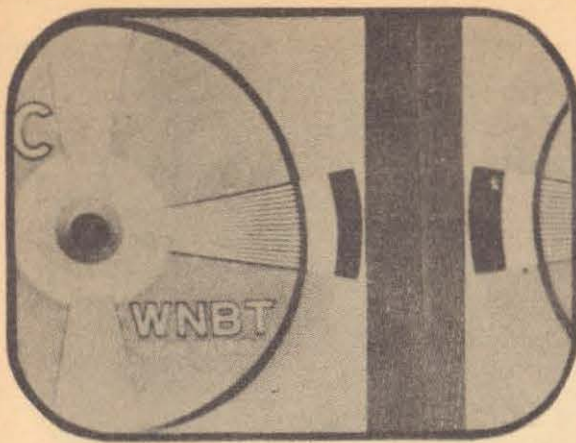

Fig. 13 Horizontal Discriminator Phase Misadjusted
**HORIZONTAL DISCRIMINATOR PHASE ADJUSTMENT.** The discriminator stage compares the sync pulse rate with the horizontal oscillator rate or frequency and delivers a DC voltage for the control of the oscillator. If the voltage at the plates of the two diodes, impressed by the oscillator, is equally divided, the DC output will not be zero at the correct time for retrace at the end of the horizontal line. This off-balance condition will result in the received test pattern shown in Figure 13.